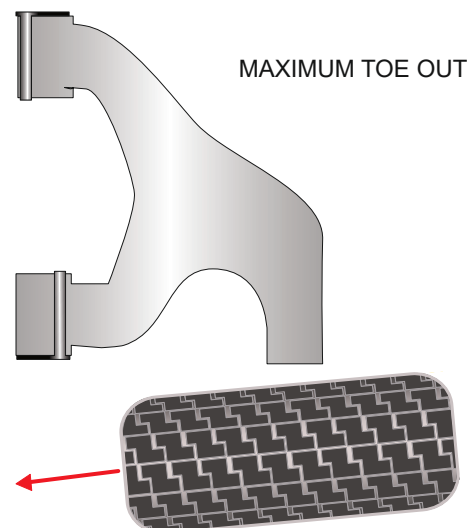

Figure 2
7. For maximum toe adjustment, use the supplied hex spanner to rotate the sleeve so that the bore is positioned in the opposing direction to PFR85-1110G as shown in Fig 2. This can be used to increase or decrease toe.